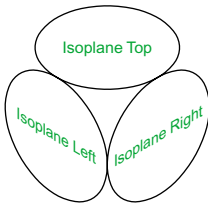

Fig. 7.19 The three isocircles
And the isocircle appears. Its isoplane position is determined by which of the isoplanes is in operation at the time the isocircle was formed. Fig. 7.19 shows these three isoplanes containing isocircles.
3. With **Line**, construct the outline of the top of the model (Fig. 7.19) working to the dimensions given in Fig. 7.18.